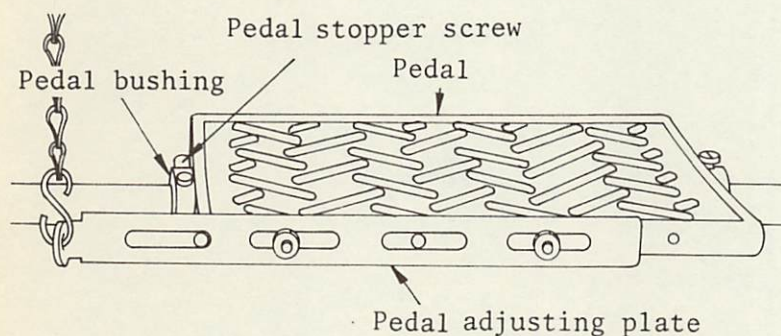

Fig.65
- 8) AO-10 uses a pedal plate for lockstitching but, as shown in Fig.65, set the pedal plate adjusting plate by sliding its hole, one by one. Also, the pedal